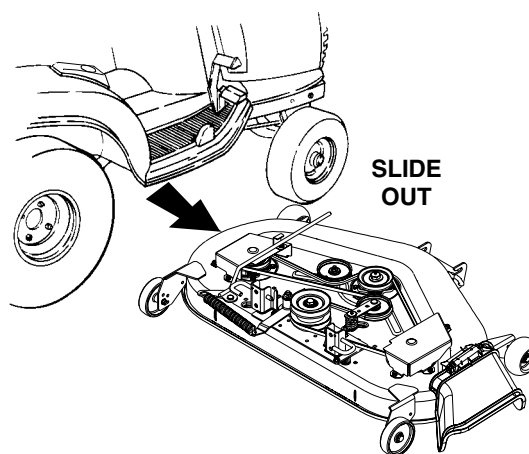

Figure 47
13. With the tractor implement lift handle raised to its highest setting, slide the deck to the right and out from under the tractor (Refer to Figure 47).